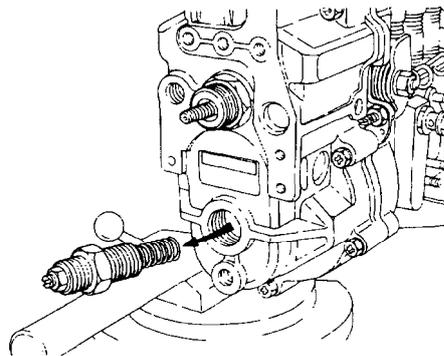

Figure 113 Installing the Idling Spring Capsule
- ff. Install the governor shaft guide screw complete with locknut. Install the idling spring capsule complete with the idling springs (Figure 113).